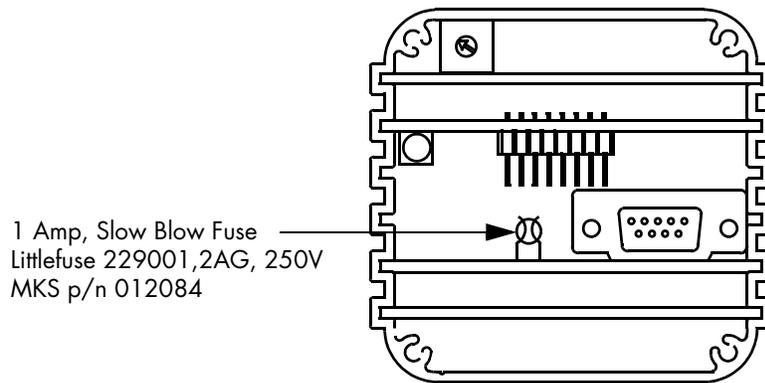

Figure 6-3 Position of 1 Amp, Slow Blow Fuse.
5. Locate the defective fuse as shown in Figure 6-3 and replace it with a new 1 amp, slow blow fuse.